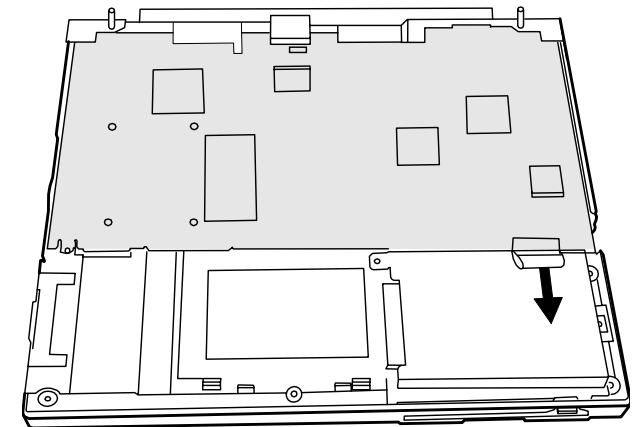

Figure 5-35. Unplugging the Floppy Disk Drive Cable
2. Connect the floppy disk drive cable to the system board. (Refer to Figure 5-35 earlier.)